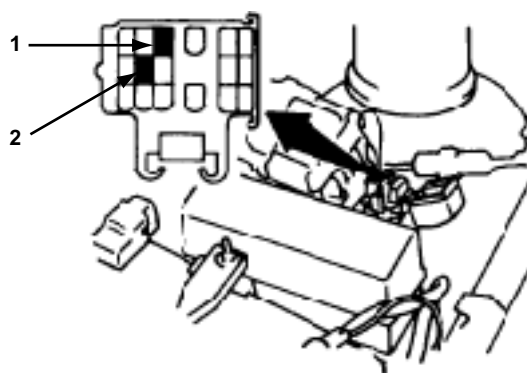

Figure 7-2 Jump pins for flash codes
- Jump diagnosis connector pins as shown in Figure 7-2.